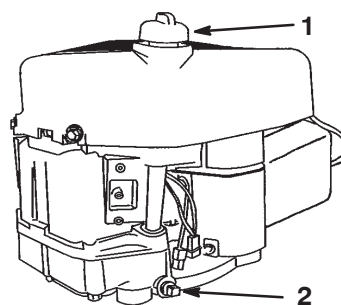

Figure 15
5. Clean around the oil dipstick (Fig. 15) so that dirt cannot fall into the fill hole and damage the engine.
6. Place a pan below the oil drain plug and remove it (Fig. 15).
9. Slowly pour approximately 80% of the specified amount of oil into the fill hole (Fig. 15). Check the oil level; refer to steps 4 and 5 of Checking the Oil Level on page 20.
5. Slowly pour approximately 80% of the specified amount of oil into the fill hole (Fig. 15). Check the oil level; refer to steps 6 and 7 of Checking the Oil Level on page 20.